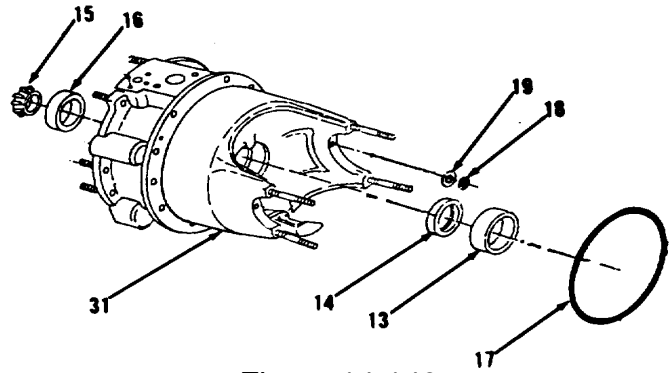

Figure 14-140.
8. Remove cup (13) and seal (14) from carrier (31, Figure 14-140). Discard seal (14).